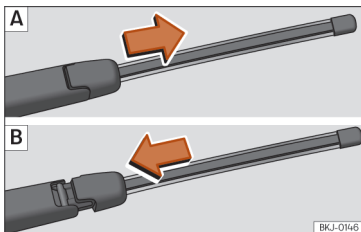

Fig. 82 Removing and fitting the rear window wiper blade.
- Slide the blade adapter in the direction of the arrow and remove the blade »» **Fig. 82 A**.
- Place the blade as shown in »» **Fig. 82 B** and slide the adapter along until it engages.